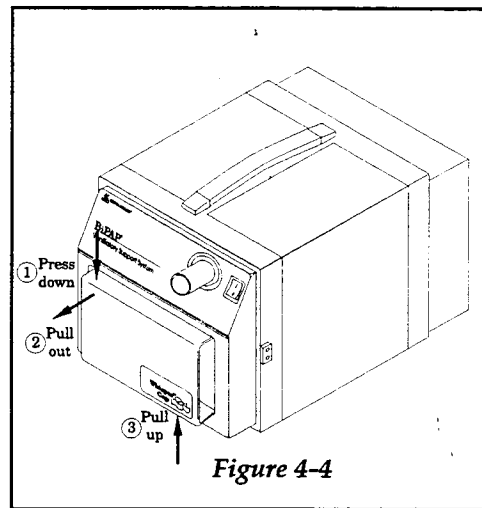
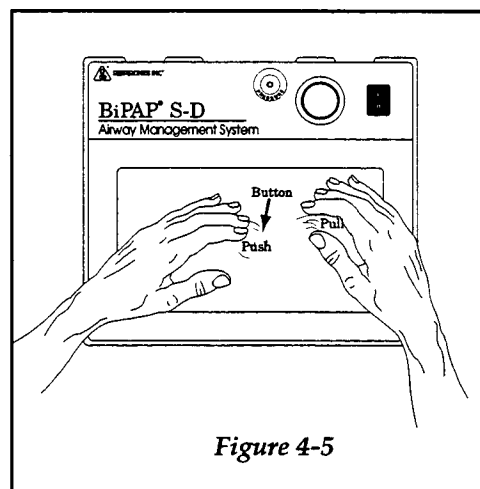

Figure 4-4
Figure 4-5
- Step 1 Turn the BiPAP unit OFF (0) and unplug the electrical cord from the wall outlet and from the back of the unit.
- Step 2 See Figure 4-4. Press down (1) and pull out (2) on the top of the Whisper Cap. You need to press down only about 1/8" to allow the top lip of the Whisper Cap to clear the filter retainer.
- Step 3 Pull up (3) on the bottom of the Whisper Cap until the bottom lip clears the filter retainer.
- Step 4 See Figure 4-5. Locate the button in the center of the filter holder beneath the surface of the filter. Push in on the button and pull the filter out from all four sides of the filter holder.